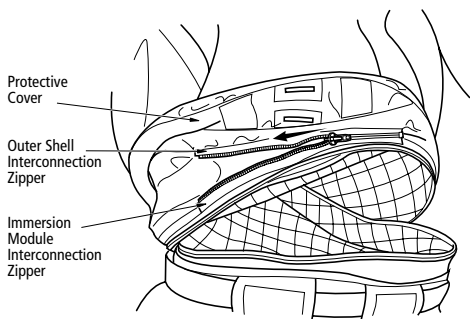

FIGURE 11
- Line up the two ends of the bottom interconnection zipper on the immersion module with the corresponding zipper of the outer shell. Connect the two ends and fasten them the length of the zipper (see fig. 11).